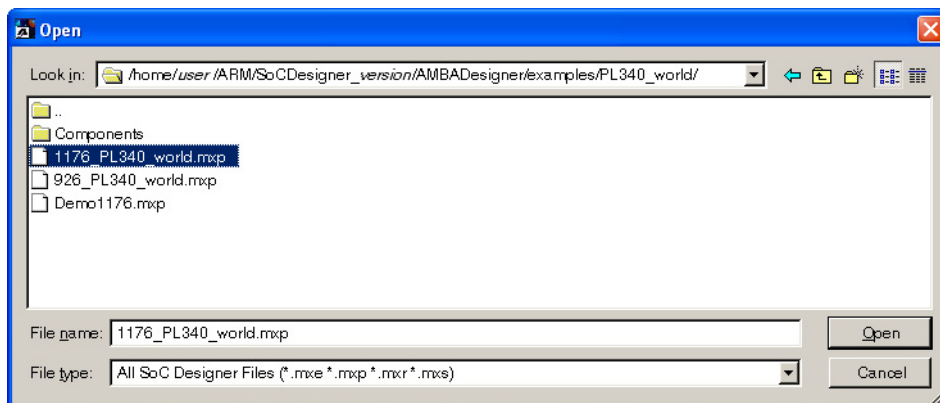

Figure 7-1 Loading the ARM1176 and PL340 world
2. Load the 1176_PL340_world.mxp file as Figure 7-1 shows.